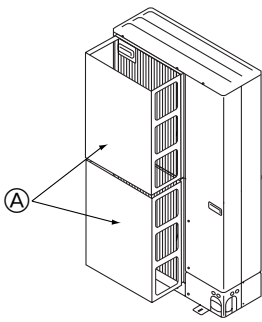

Fig. 2-15
① Install an optional air guide if the unit is installed in a location where strong winds from a typhoon, etc. may directly enter the air outlet. (Fig. 2-15)